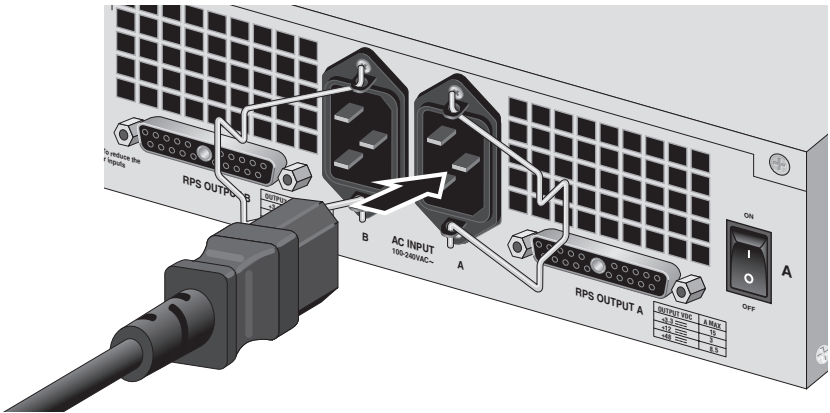

Figure 9. Connecting a Power Cord to the AT-RPS3104 System
2. Connect an AC power cord to the AC connector for the pre-installed AT-PWR3101 module in Slot A (see Figure 9).